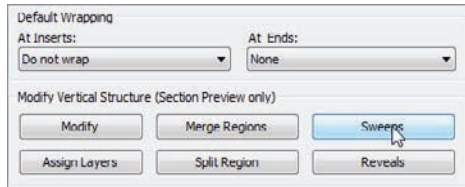

FIGURE 16.9 Adding a sweep to the wall
18. Click the Sweeps button, as shown in Figure 16.9.